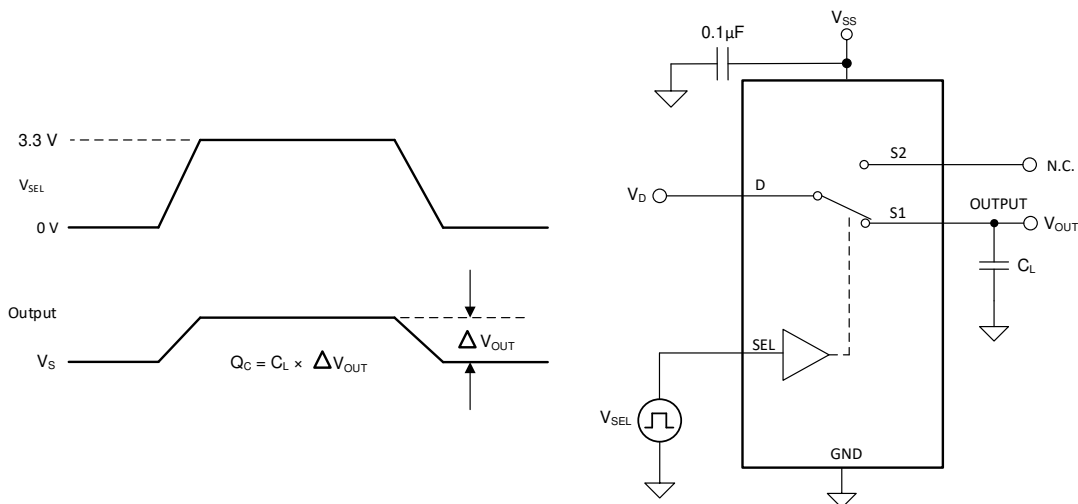

Figure 7-8. Charge-Injection Measurement Setup
The TMUX4157N has a transmission-gate topology. Any mismatch in capacitance between the NMOS and PMOS transistors results in a charge injected into the drain or source during the falling or rising edge of the gate signal. The amount of charge injected into the source or drain of the device is known as charge injection, and is denoted by the symbol Q_C . Figure 7-8 shows the setup used to measure charge injection from Drain (D) to Source (S_x).